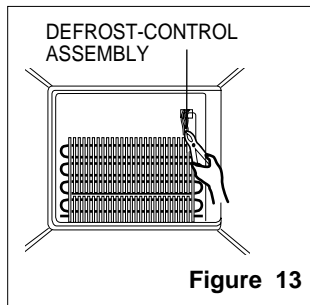

Figure 13
2. Separate the connector with the Defrost Control assembly and replace the Defrost Control assembly after cutting the Tie Wrap. (Figure 13)